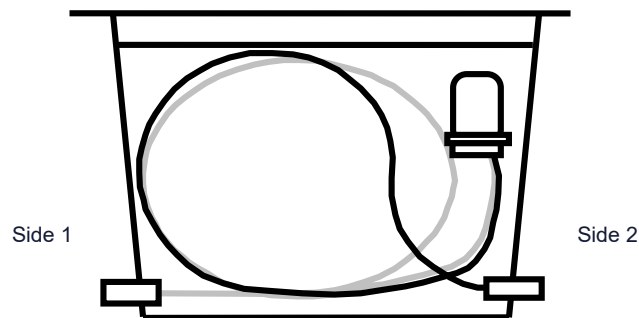

Figure 3 - Cable set up for openable joints in pits
- As specified in the network design, the appropriate amount of slack cable should be drawn into intermediate and end pits/manholes, for housing and jointing requirements (see Figure 3 and Figure 4).